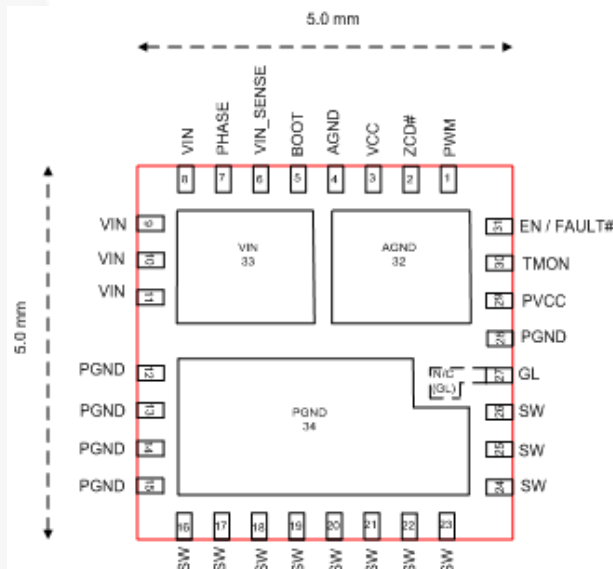

Figure 2. SPS Pin Configuration
High-performance PQFN package with “flip-chip” low-side (LS) MOSFET improves thermals and lowers LS source inductance. Flip chip low-side MOSFETs use the PGND plane to pull heat away from LS MOSFET and add a top-side heat slug for dual cooling. The pin configuration of SPS is shown in Figure 2.